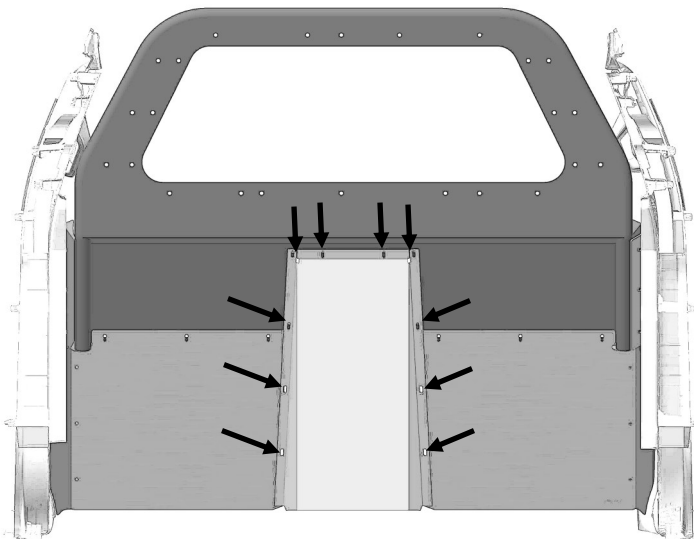

Fig. 5
- B. Align the (10) slots on the Panel with the (10) corresponding slots on the partition and the Lower Extension Panels (Figure 5).
- C. Loosely fasten the Recess Panel to the partition using (10) carriage bolts [3X36] and (10) whiz nuts [3X16Z] to fasten.